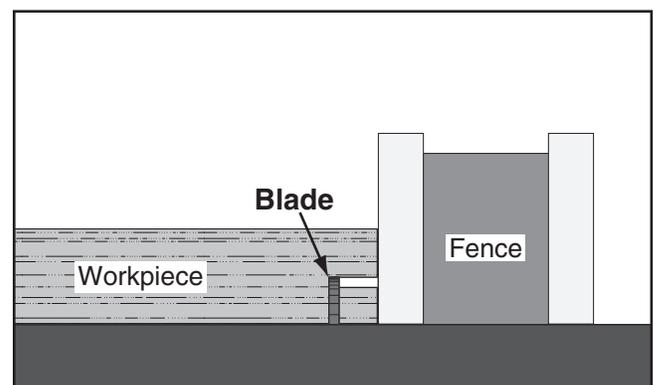

Figure 70. Second cut to create a rabbet.
6. Lay the workpiece on its side, as shown in **Figure 70**, adjust the saw blade height to intersect with the first cut, and perform the second cut to complete the rabbet.